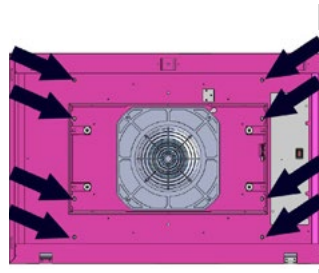

FIG.5
- › Bring the hood close to the brackets previously fixed and then connect the appliance to the supply mains. Secure the hood to the ceiling, by using the screws supplied, as shown in Fig.5.